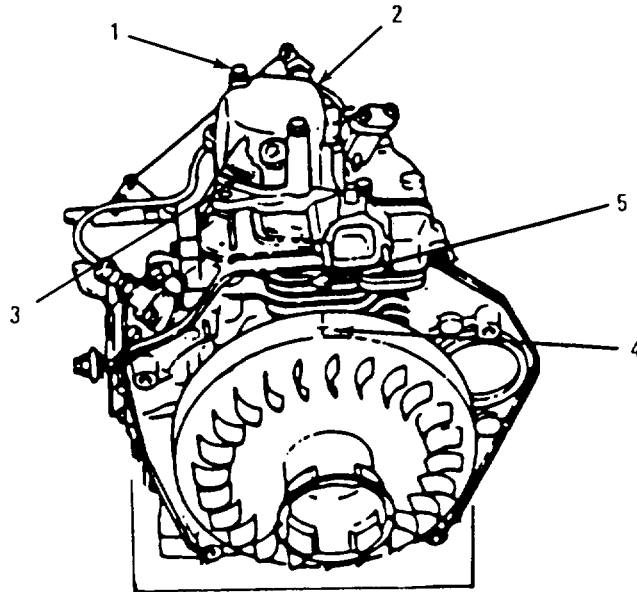

Figure 4-25. Alignment of Flywheel With Cylinder Block
a. Removal. (Refer to Figure 4-25)
- (1) Remove two bolts (1) holding rocker arm cover (2) to cylinder head.
- (2) Remove rocker arm cover (2) and gasket; discard gasket (3).
- (7) Insert 0.006 inch (0.15 mm) feeler gauge between valve rocker arm and top of the valve spring cotter.
- (8) While turning the adjusting screw clockwise, slowly slide the feeler gauge back and forth. Stop turning adjusting screw when slight resistance is felt on the feeler gauge.
- (9) Remove feeler gauge and tighten locknut. Keep screwdriver inserted into adjusting screw to prevent adjusting screw from turning.
(10) Verify valve clearance of 0.006 inch (0.15 mm) after completion.
(11) Repeat on both intake and exhaust valves.
(12) After securing both locknuts, check that clearance is still 0.006 inch (0.15 mm).
d. Installation. (Refer to Figure 4-25)